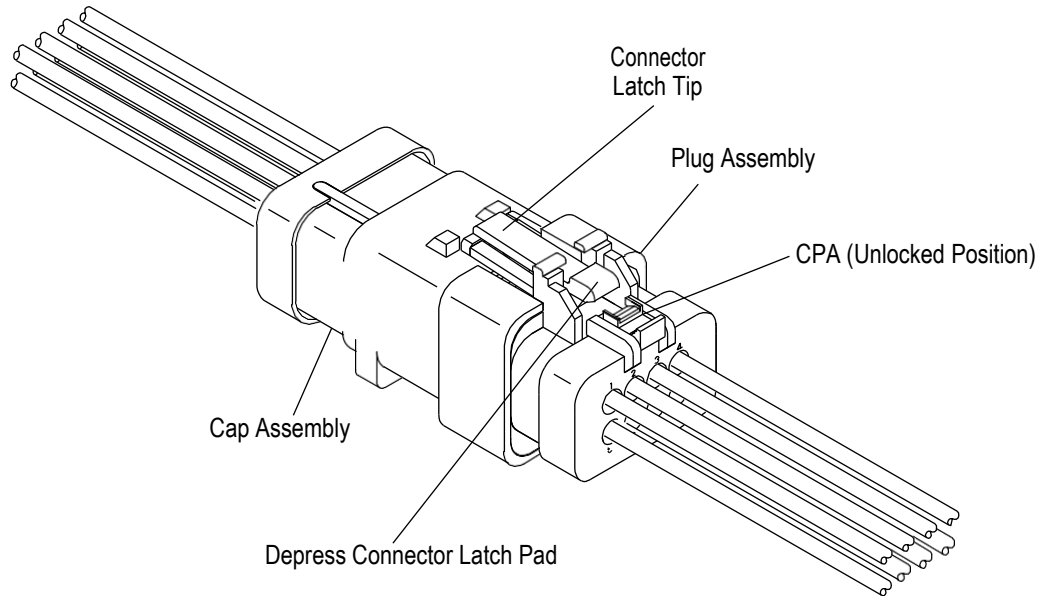

Figure 8
Damaged or misplaced contacts can be replaced on an individual basis. Refer to Figure 8 and separate the connector and remove the contact by the following procedures:
1. Slide the CPA completely toward the rear (wire end) of the cap housing assembly to reveal the connector latch tip. See Figure 8.